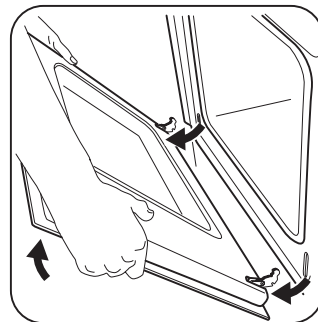

Figure 24: Holding door for removal
3. Firmly grasp both sides of oven door along the door sides. Do not use the oven door handle. Close the oven door halfway to the first opening position. Then, pull forward and remove the door from its seat (Figure 24).
1. Firmly grasp both sides of oven door along the door sides. Do not use the oven door handle (Figure 24).
2. Holding the oven door at the same angle as the removal position, seat the hook of the hinge arm over the roller pins located on each side of the oven door frame (Figure 24). The hook of the hinge arms must be fully seated onto the roller pins.